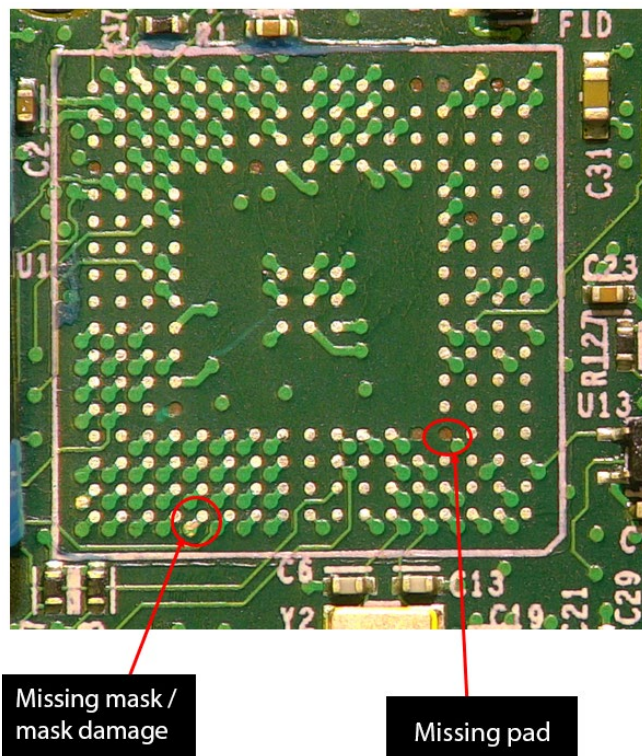

Figure 1: BGA site location after removal of underfilled BGA indicating both pad lifting and mask damage.
- The mechanical bond of the underfill to the PCB may cause the lifting of pads, laminate damage, or solder mask damage (Figure 1)